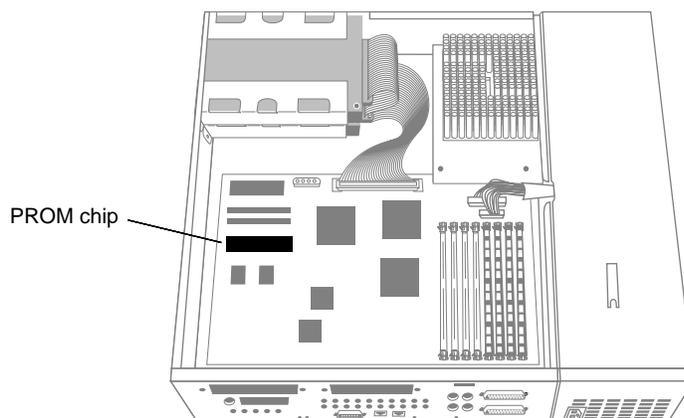

Figure 1-13 Locating the PROM Chip on the System Board
1. Locate the PROM chip on the system board, as shown in Figure 1-13.